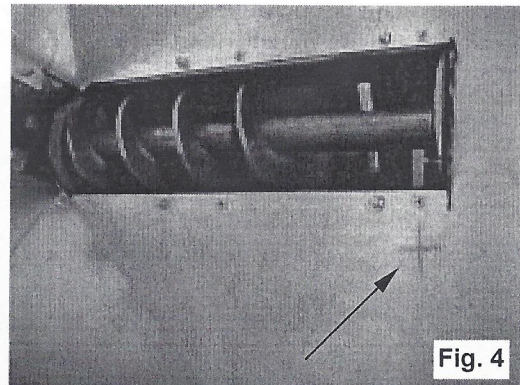

Fig. 4
4. Mark location on hopper 3/8" down and 1-1/8" over as shown (see Fig. 4).